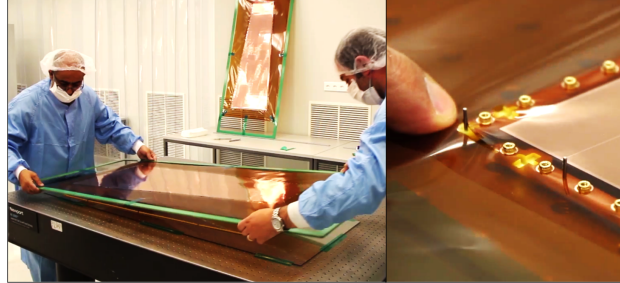

Figure 56: Placing GEM1.
Step 7: Place the GEM1 on top of the 3 mm frames using the guiding pins for a proper positioning (Fig. 56). Make sure the foil is well aligned to